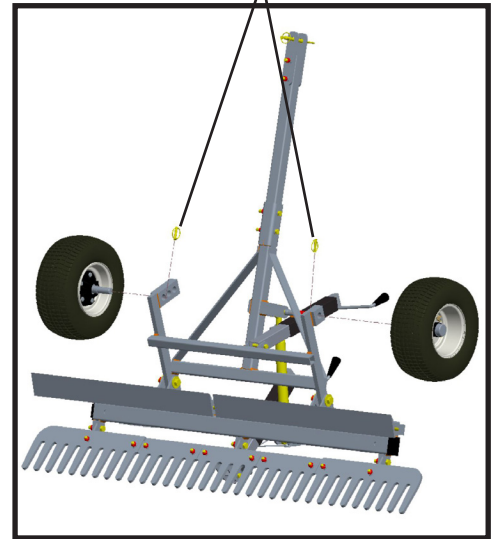

Fig 2.
2. Remove Lynch Pin from each wheel axle. Remove both tires and hub/axle assemblies (**Fig 2**).